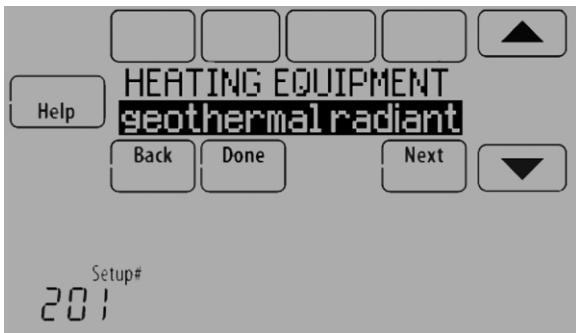

Fig. 108.
1. Select Geothermal Radiant Heat as shown in Fig. 108.